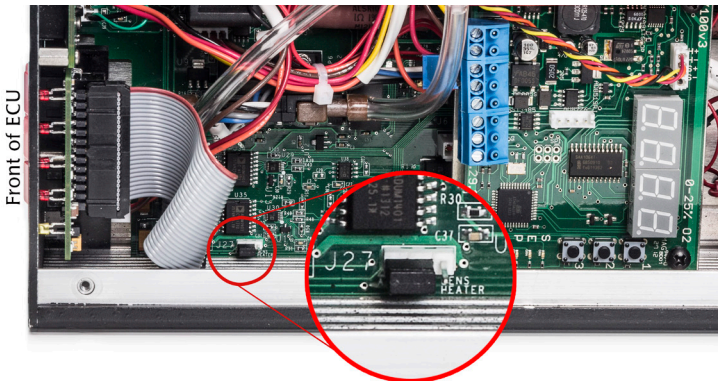

Fig. 59—On new ECUs (version 2.5 or newer, 2014) reposition the J27 jumper to configure the hardware for a lens heater. This board is configure for an AirTherm.
3. If your controller is newer than version 2.5, locate the **J27** jumper. By default it is set to **Aux** (covering the left and center pins) as shown in Fig. 59. To set the hardware to **Lens Heater**, position the jumper over the center and left pins.